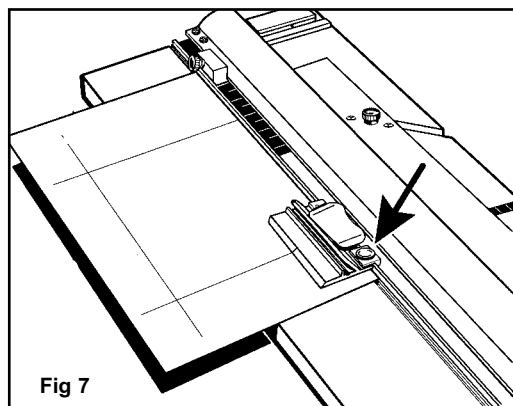

Fig 7
4. Attach the 702 bevel cutter and position the start and stop indicator over the marked pencil line. Fig 7.
5. Depress the Anti-Crawl Pin and firmly pivot the Blade Holder down into the mat. Fig. 7.